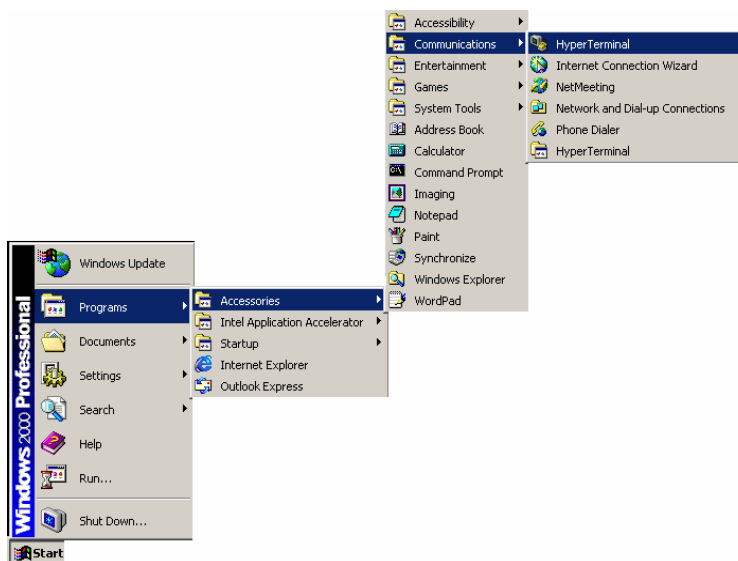
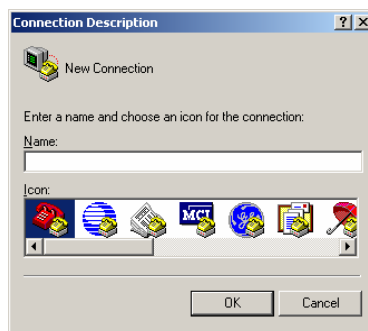

Figure 6. Start Hyper Terminal function
Figure 7. Connection Description
Step 1. Click *Start* *Accessories* *Communications* *Hyper Terminal* (Figure 6), and then the *Connection Description* screen will be shown as Figure 7.